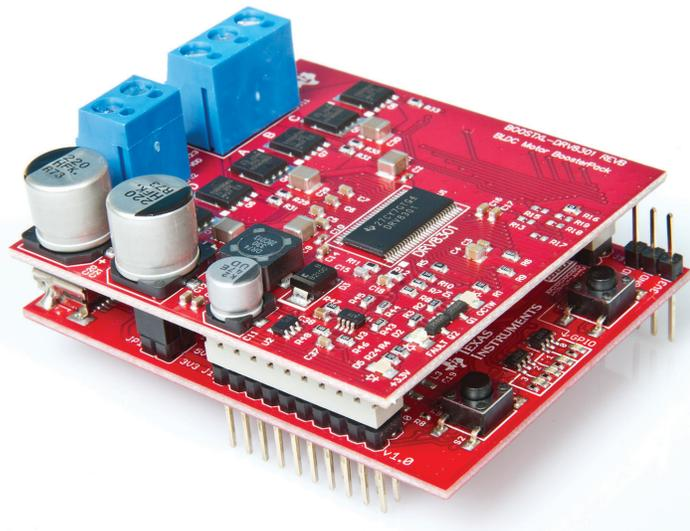

Figure 1: BOOSTXL-DRV8301 On Top LaunchPad
- II. Plug the Motor Drive BoosterPack onto the LaunchPad as shown in Figure 1. The terminal block headers should be oriented towards the USB connector.